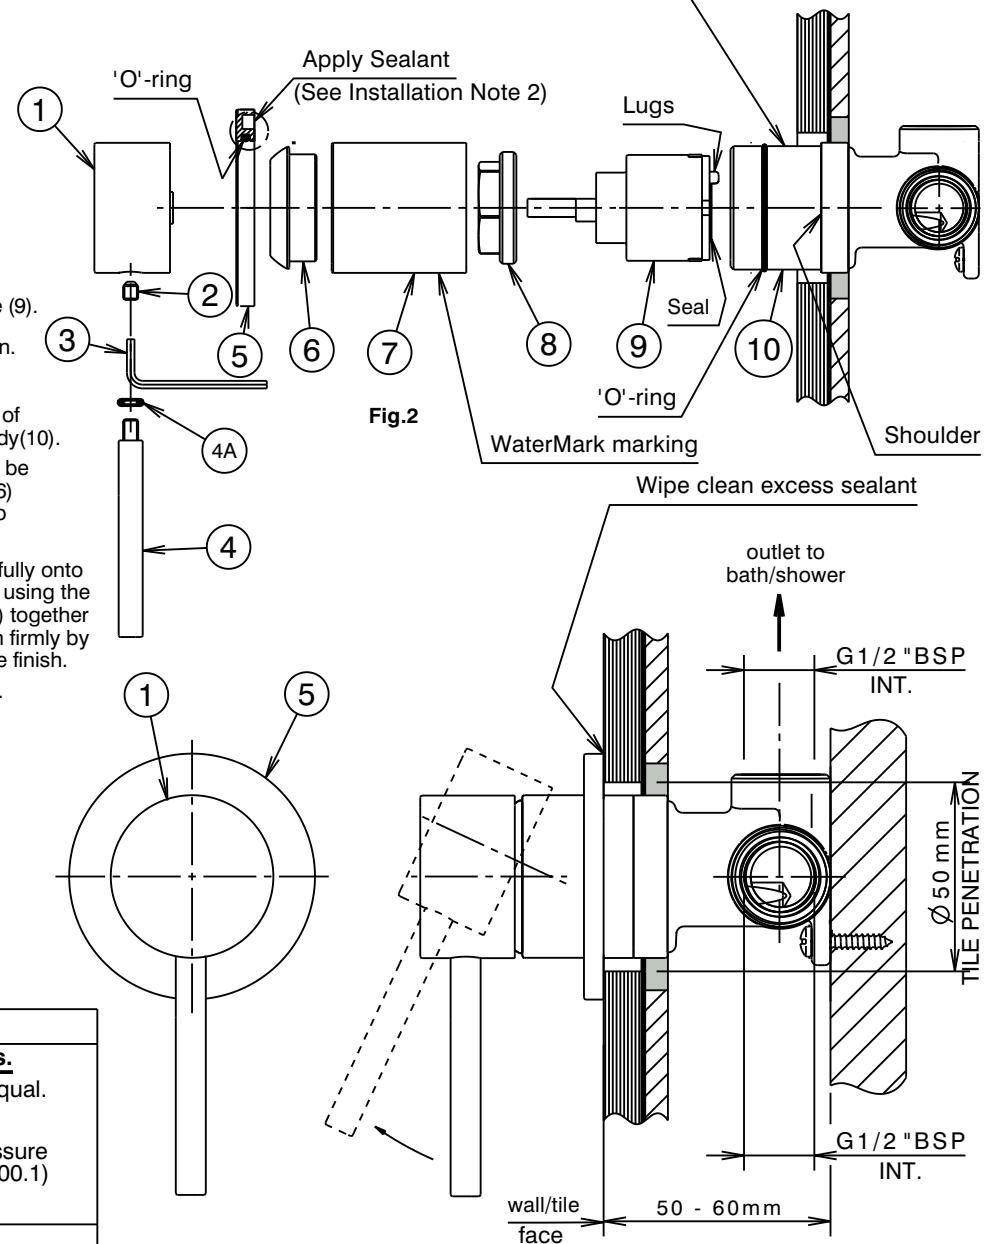

Fig. 1
Installation (Fig. 1 & 2)
- * Mixer body (10) must be installed square to wall/tile face, to ensure cover plate (5) sits flush.
- 2) **Trim Kit:** Remove protective cap from mixer body (10). Ensure the external surface of the mixer body (10) is clean, apply lubricant on the 'O'-ring, then slide sleeve (7) (with WaterMark marking underneath) over mixer body (10) up to the shoulder as shown. Screw cap (6) onto the thread of nut (8) and hand tighten to secure the sleeve (7).
- 3) Apply a suitable clear sealant to the back edge of the cover plate (5), leaving an unsealed section at the bottom for drainage. Carefully slide the cover plate (5) (fitted with 'O'-ring) over the mixer body sleeve (7) with the 'CAROMA' logo aligned at the bottom. Push the cover plate (5) firmly against the wall/tile face. Wipe/clean excess sealant from the trim surfaces & the wall/tile face (See Fig. 1).
- 4) Fit handle (1), taking care that it is pushed fully onto cartridge stem, then tighten grub screw (2) using the 2.5mm allen key (3). Screw handle lever (4) together with O'Ring (4A) into handle (1) and tighten firmly by hand, taking care not to damage decorative finish.